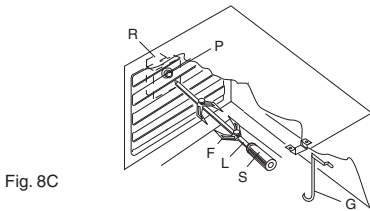

Fig. 8C
- Put the food in spit **L** (see fig. 8C), paying attention to block it within the two forks **F** and to balance it, in order to avoid any unnecessary effort in motor **R**.
- To remove the spit, operate in the opposite direction using knob **S** and protecting glove in isolating wool (fig.8C).